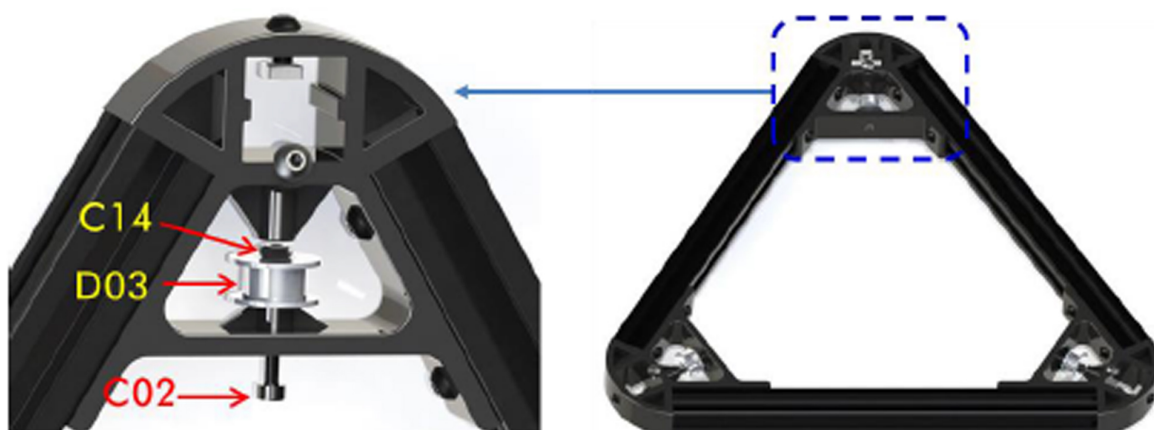

Fig. 3
Step 3. Fig. 3 shows the assembly details of one of the three corners of the top triangle.